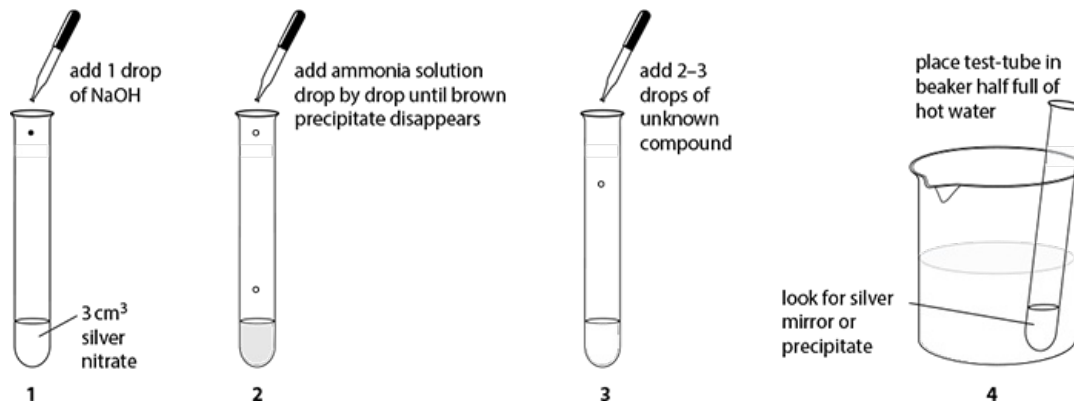

Figure 10.4: Tollens' reagent test for the -CHO group
- 1 Complete the procedures shown in Figure 10.4 for both unknown compounds.